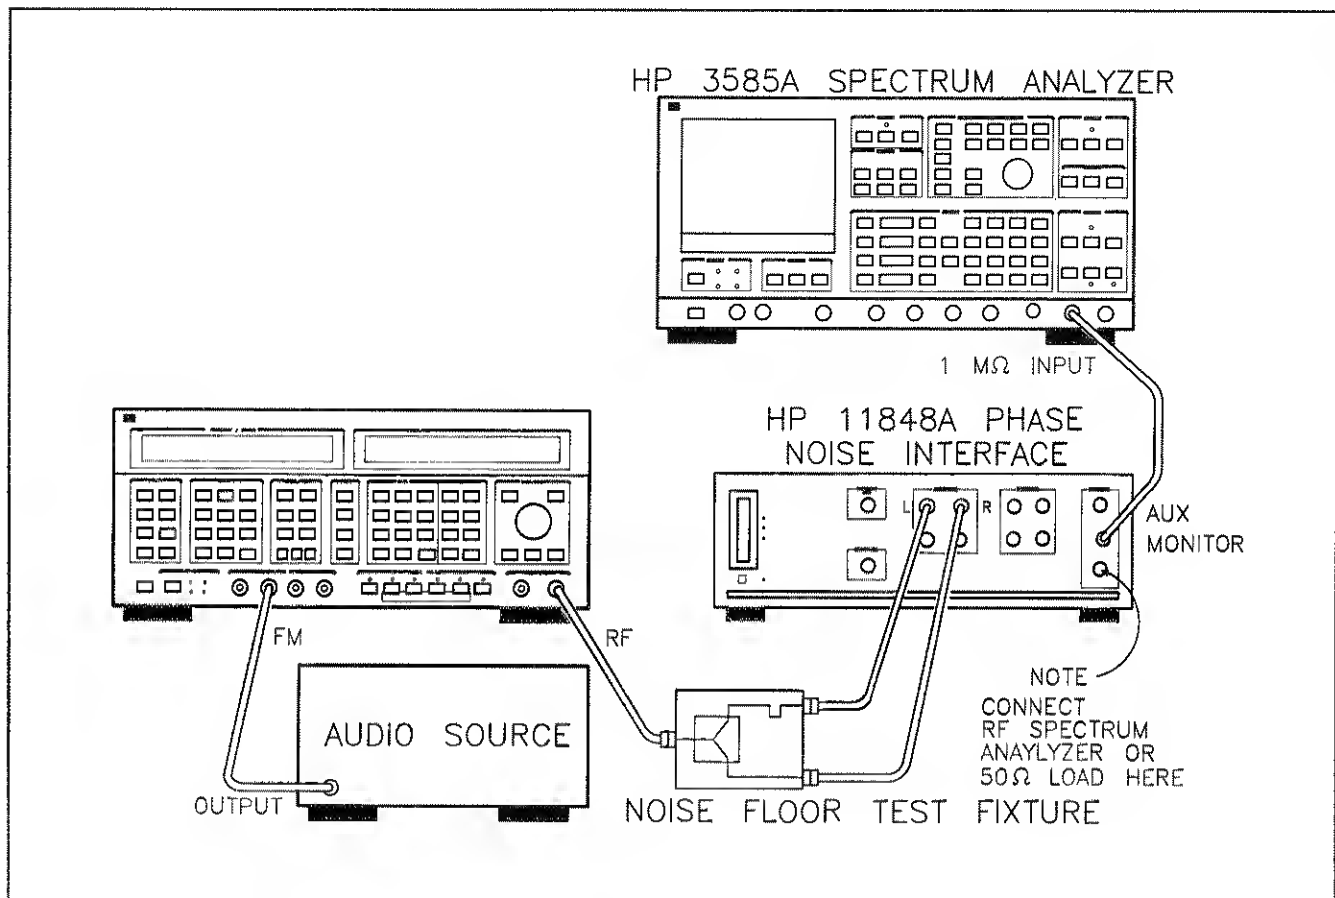

Figure 3-5. FM (High Deviation and Rates) Test Setup
2. Connect the equipment as shown in figure 3-5. Check that the **SPECTRUM ANALYZER** output connector on the front panel of the HP 11848A Phase Noise Interface is terminated in 50 Ω . Also, check that the delay line connectors are tight.